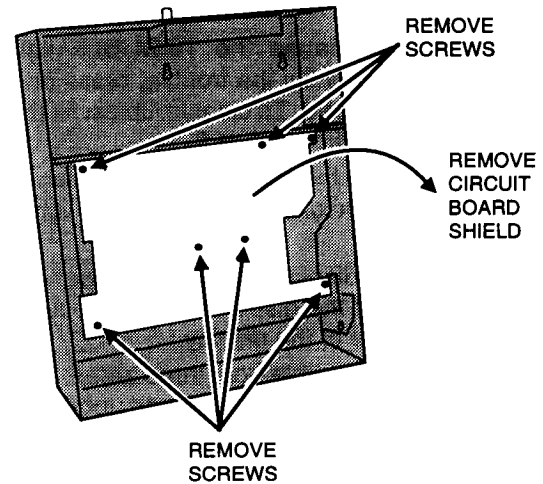

Figure 52. Removing Circuit Board Shield
**STEP 1** Remove circuit board Shield. Remove the seven screws from the Circuit board shield (see Figure 52). Carefully remove the shield and set it aside.